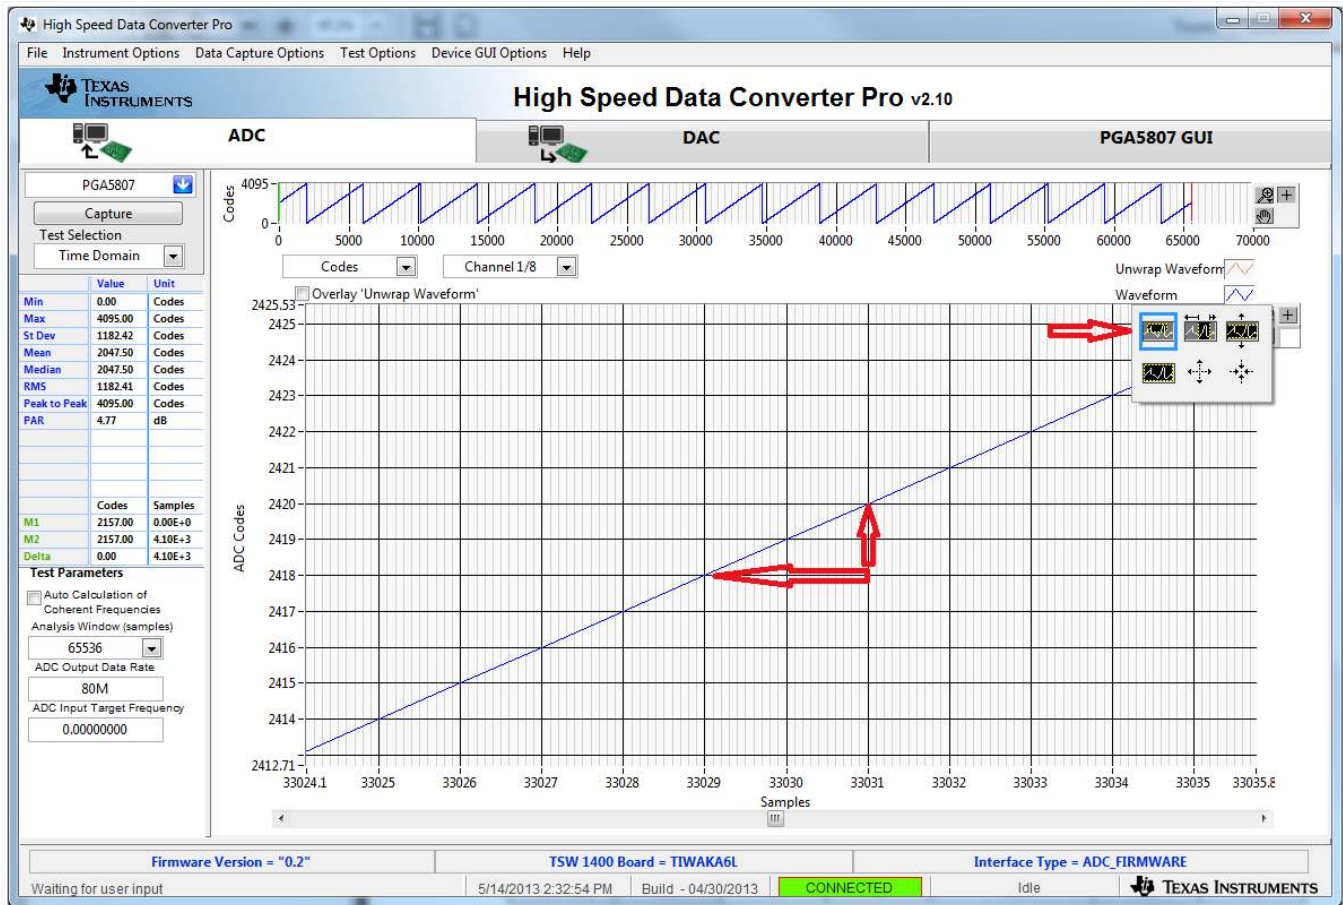

Figure 36. Zoom on RAMP Capture
5. Zooming into the waveform, as shown in Figure 36, is recommended to ensure that the RAMP waveform increments 1 ADC code for each subsequent sample.